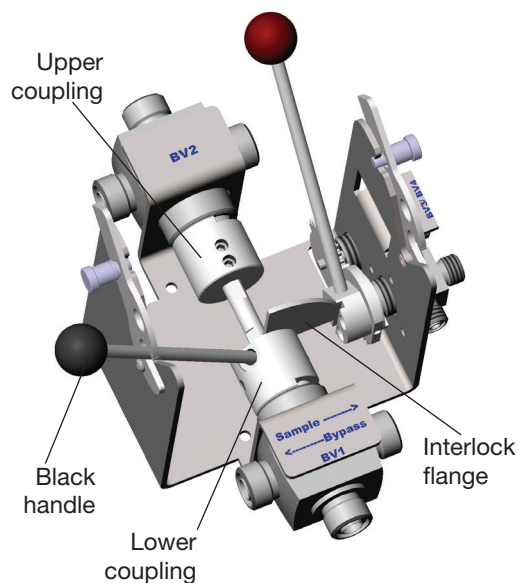

Fig. 1
1. Place the FLM in bypass mode by moving the black handle (BV1/BV2) to the left. Fig. 1.
4. Configurations 3 and 4 - Open the purge valve (PV).
6. Verify that the FLM is depressurized by checking the pressure on the pressure gauge (PI).
1. Turn the black handle to the left to place the system in bypass mode. Fig. 1.